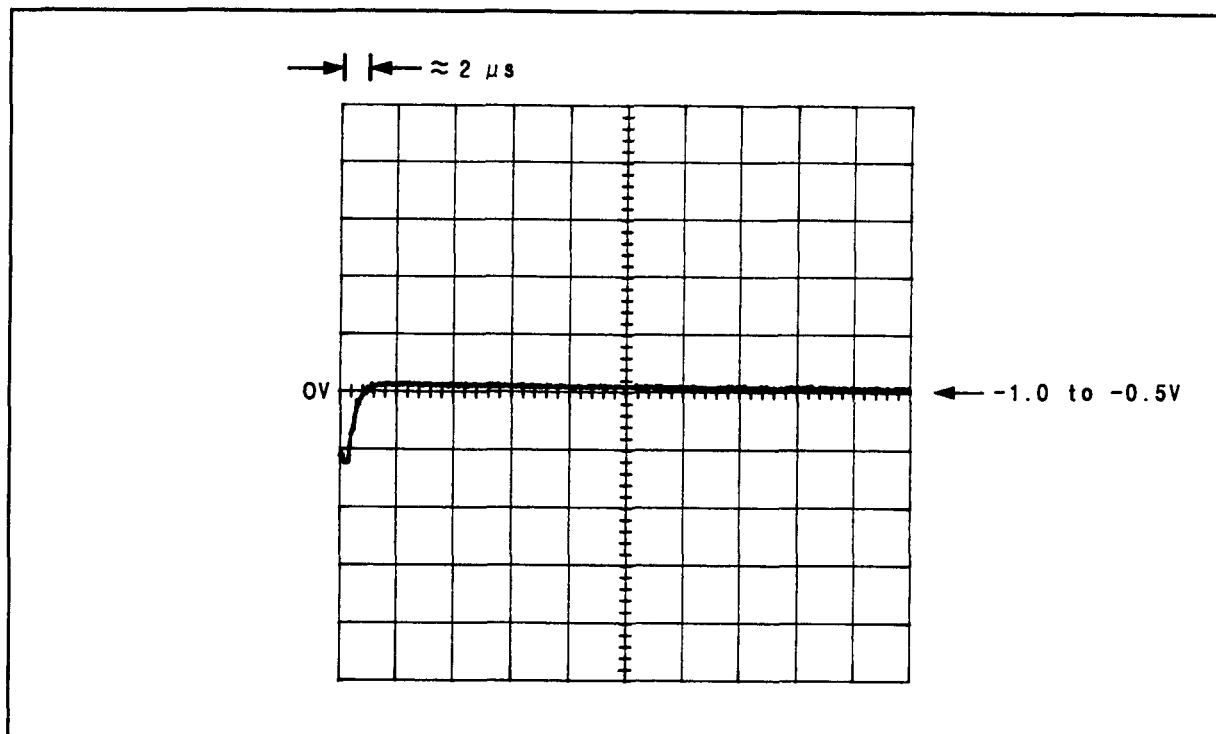

Figure 8F-32a. Waveform for $\sqrt{1}$ Step 4
4. Check the voltage at the collector of Q5 with a high-impedance, dc coupled oscilloscope. The waveform should be a square wave with an amplitude of approximately 1.6 Vpp and a period of approximately 2.8 ms, but more importantly, observe the falling edge. Set the oscilloscope to trigger on a negative slope with a sweep time of 2 μ s per division. The waveform will be intermittently stable and very faint but the falling edge should be as in Figure 8F-32a.